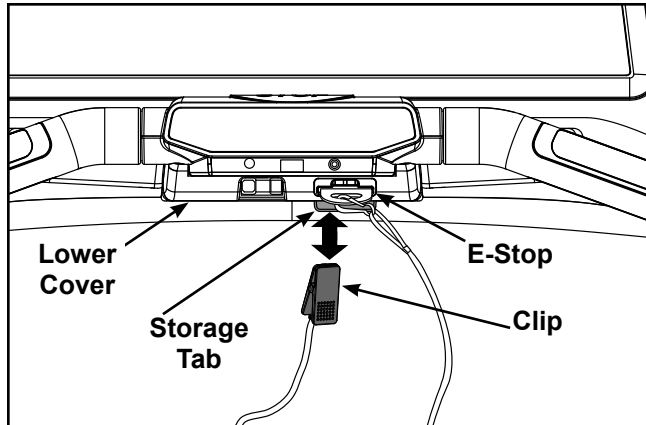

Figure 3
**NOTE:** When not in use store the e-stop clip on the storage tab located on the lower cover. See Figure 3.